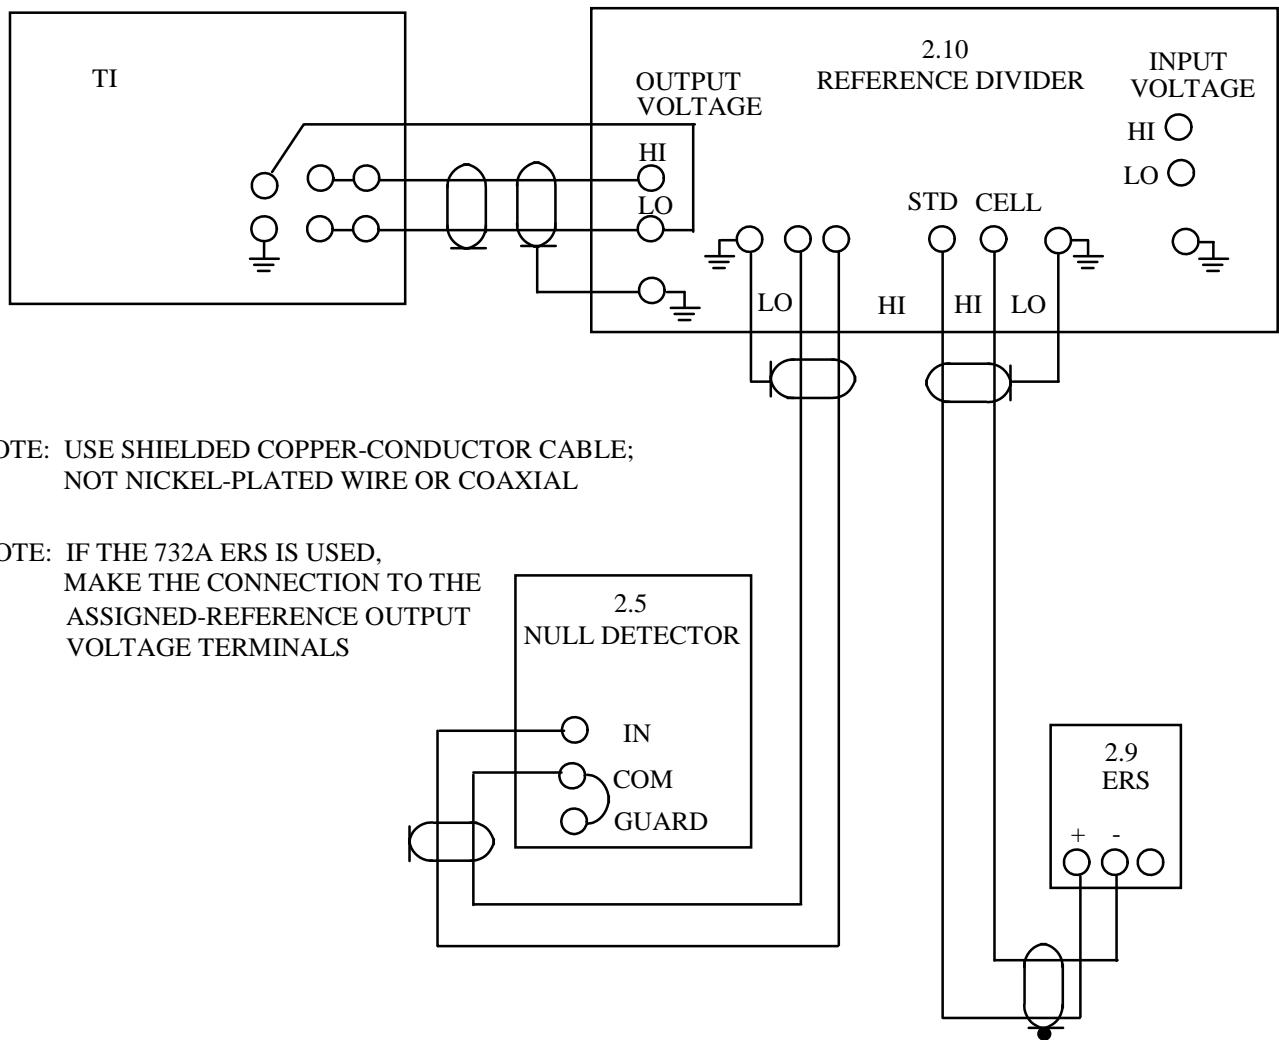

Figure 6. One-Detector Output-Voltage Measurements Setup
4.5.1 Set the reference divider INPUT-VOLTAGE switch to RESET, and connect the equipment as shown in Figure 6.